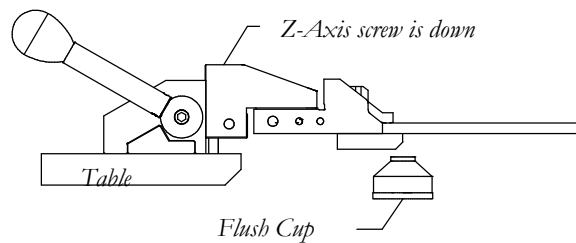

Figure 13
STEP 25. After the truing is completed remove the vertical vise/TD01 and work piece from the presetting station and place them onto the MCD01 in the machine and secure by tightening of the torque handle as shown in Fig. 13.